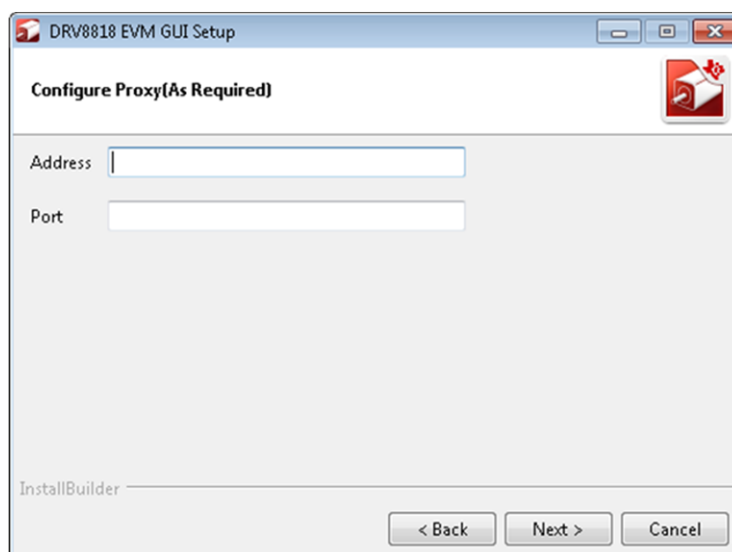

Figure 7. Configure Proxy
7. If LabVIEW RTE is selected as a component to install, a screen appears as shown in Figure 7. Configure the proxy settings as required. This screen is to download the LabVIEW RTE 2014 from ni.com, Click **Next** to continue the installation.